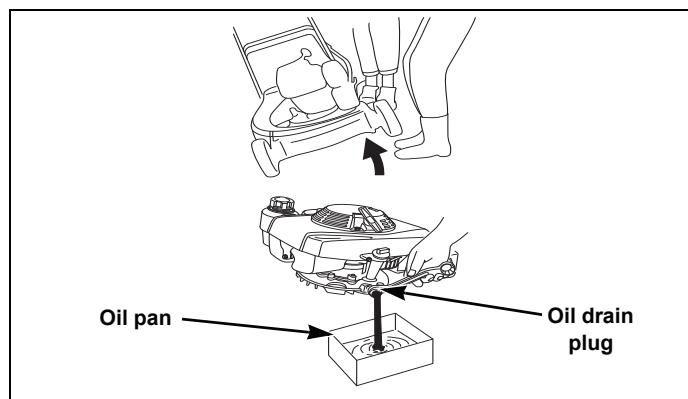

Fig. 5-2
2. Remove the engine oil drain plug. Fig. 5-2
3. Tilt the mower onto its side to drain the oil. Fig. 5-2